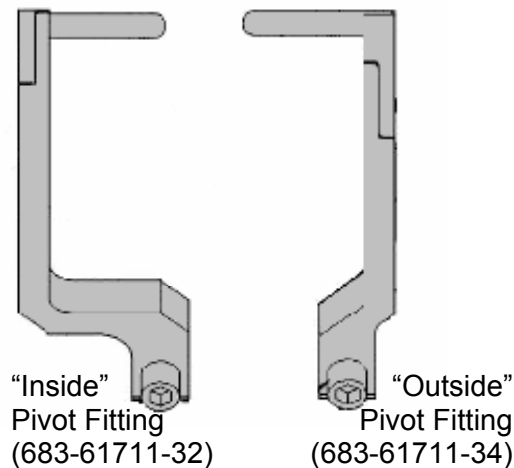

Figure 11.- ARIS Pivot Fitting Bottom Right, Outside vs. Inside.
8.2 Remove ARIS Pivot Fitting Bottom Right (outside) (P/N 683-61711-34) from lower Standoff (Ratchet, 3/8" Drive; 6" Long, 3/8" Hex Head, 3/8" Drive). Refer to Figure 11.